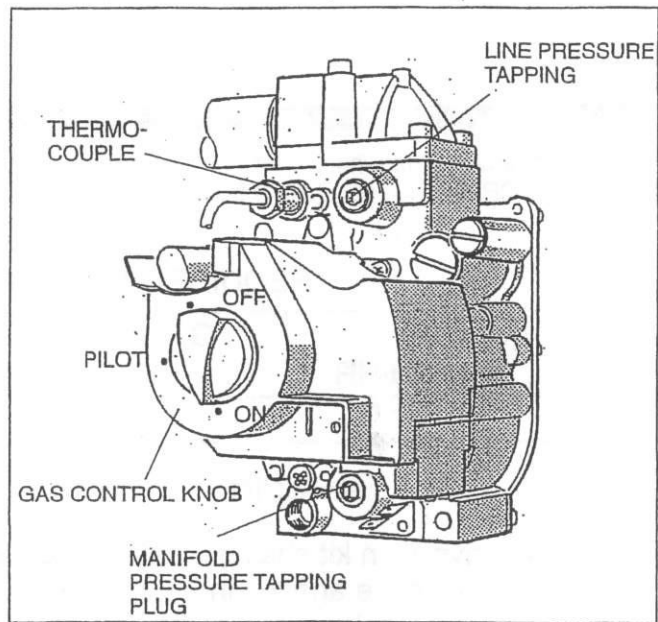

Fig.2
Turn the gas control manual valve clockwise ↻ to the full "OFF" position, fig. 2.
32. Shut off the main gas supply shut–off valve. Remove the line pressure tapping plug from gas control, fig. 2; install a test fitting, and hook up a manometer so that line pressure can be checked.
33. Remove the manifold pressure tapping plug from the gas control, install a test fitting and hook up a manometer so that manifold pressure can be checked, fig. 2.